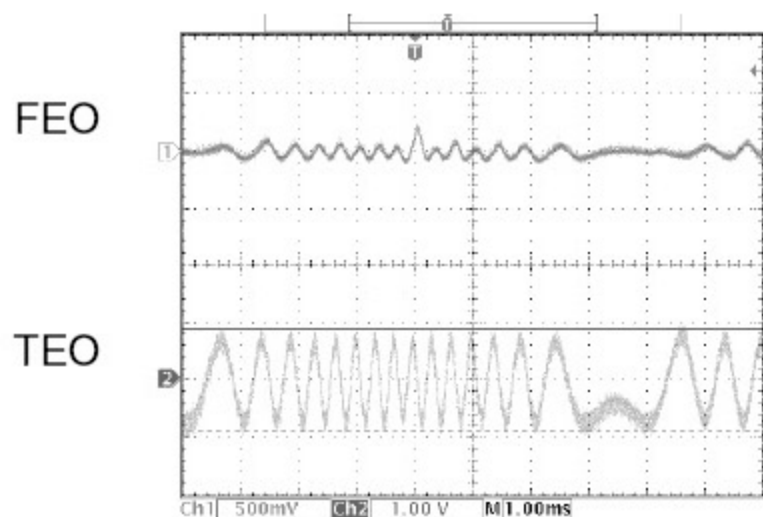

Fig. 4 In "03 F on"
(2) Checking of servo state
- * Press the PLAY button after performing above (1) "DISC discrimination, adjustment".
- * "03 F on" is displayed. DISC starts turning, and focus servo will be actuated. (Refer to Fig. 4, 5)